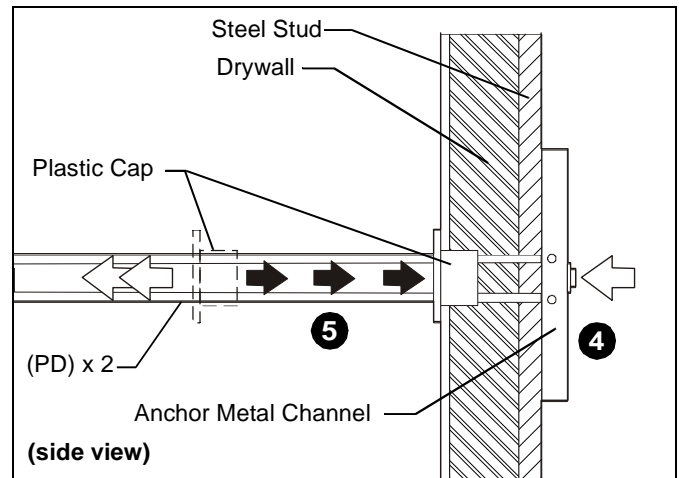

Figure 17
4. Holding plastic straps on anchor (PD), pull anchor away from wall until channel rests flush behind wall making sure anchor channel is positioned vertically on stud. (See Figure 17)
5. Slide plastic cap on anchor (PD) towards wall until flange of cap is flush with wall. (See Figure 17)